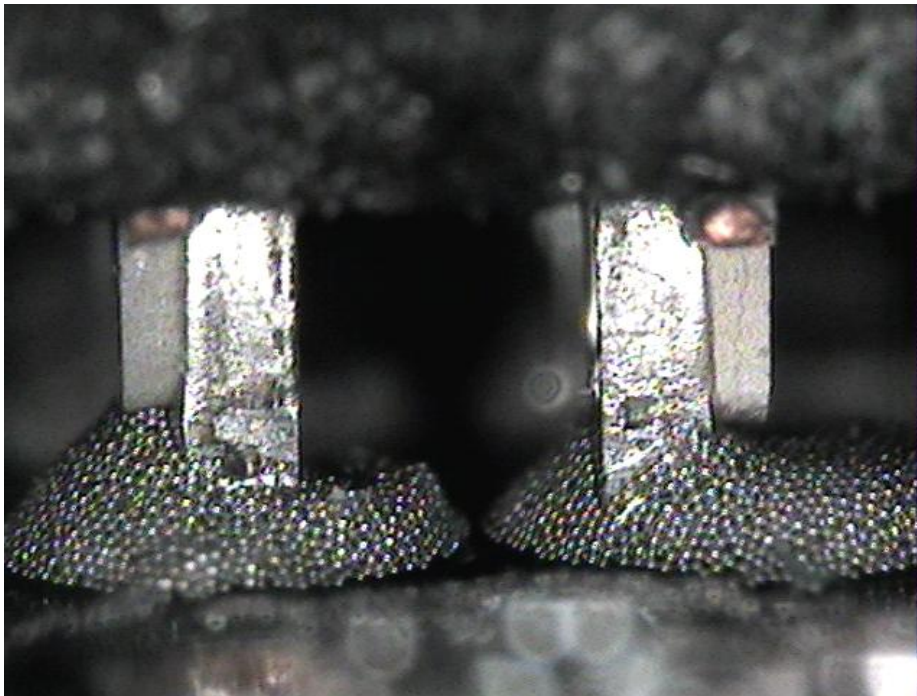
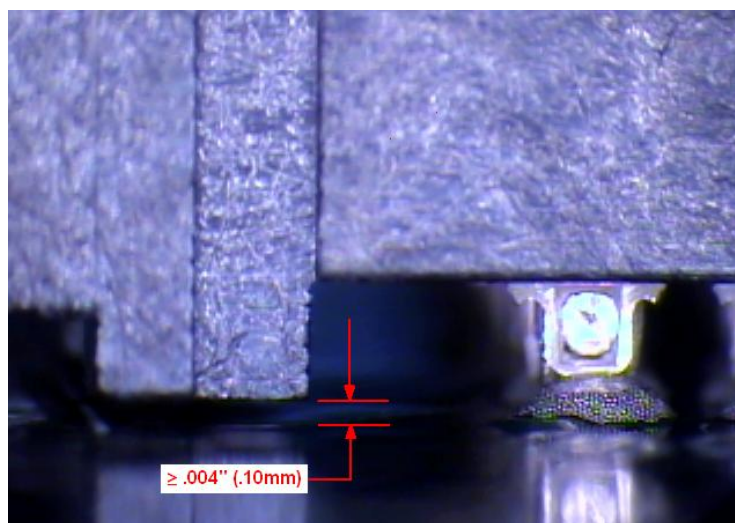

Fig. 3. Solder charge location relative to solder print. Notice good contact between solder charges and solder paste.
Fig. 4. The insulator housing of a fully seated SEARAY™ connector prior to reflow will rest approximately .004" (.10mm) above the board surface.
- Complete solder pad coverage is critical. The recommended aperture size of .035" (0.89mm) is intentionally larger than the pad to ensure that the solder charge comes into contact with the solder paste. If this does not occur, proper wetting will not be achieved (see **Fig. 3**). Automated inspection of each print is recommended. If solder paste does not completely cover the solder pad the assembly should be rejected, cleaned and re-printed.
- The connector must be fully seated. As previously stated and shown in **Fig. 3**, it is critical that the solder charge comes into contact with the solder paste to ensure proper wetting. When using automated pick and place equipment, ensure the Z-axis dimension fully seats the solder charges onto the board surface. Due to nominal variances in solder charge positioning, i.e., coplanarity, not all charges will contact the board at the same time. **Fig. 4** illustrates a fully seated connector prior to reflow.